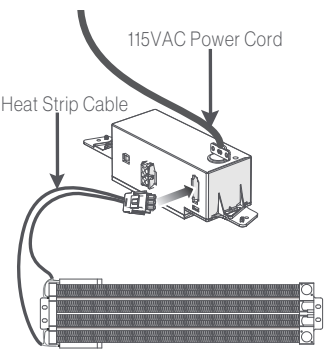

Fig. 6
- When the heat strip is connected properly, secure the electrical box trim kit body. (Fig. 6)